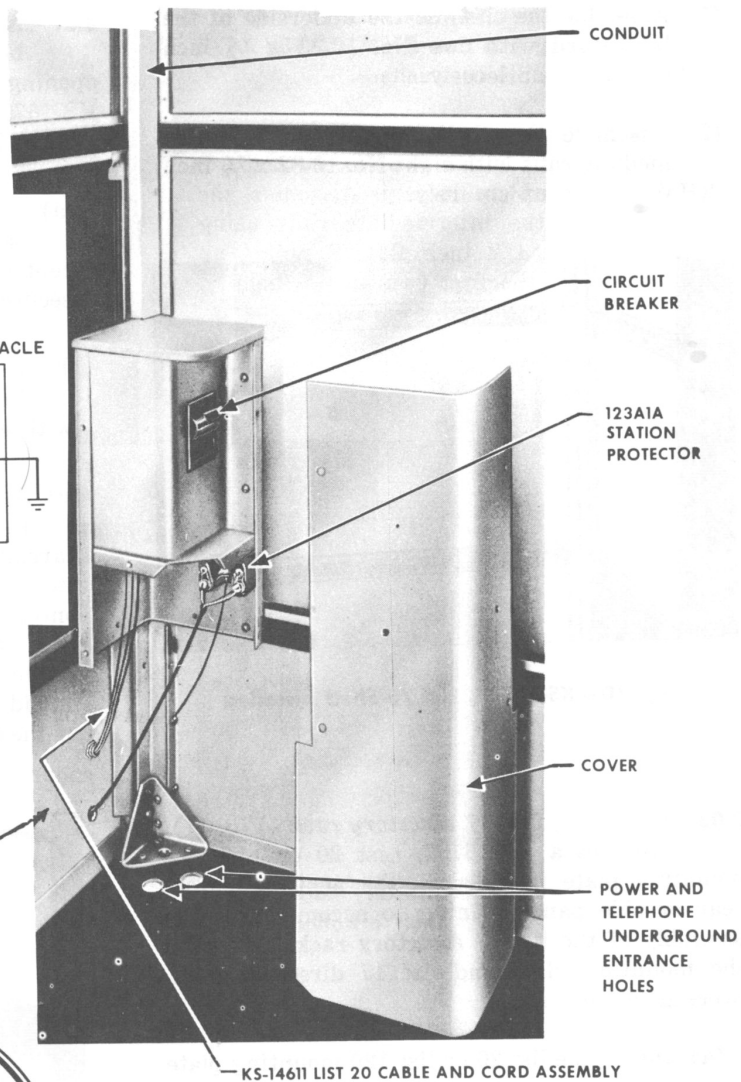

Fig. 8 — KS-14611, List 20 Cable and Cord Assembly
6.05 *Outdoor installation*, Fig. 8, power may be brought into an outdoor booth from the top